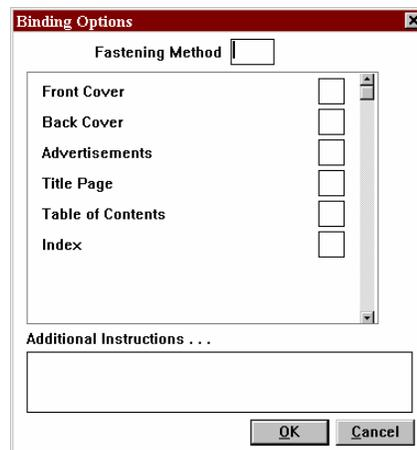

Figure 48 - Binding Options window
**Binding** click this button to display the binding options window, allowing you to enter binding and collation options (see Figure 48).
The Binding Options window (Figure 48) is displayed when you click the **Binding** button. This window allows you to enter binding options, collation information (depending on the bindery configuration), and additional instructions.